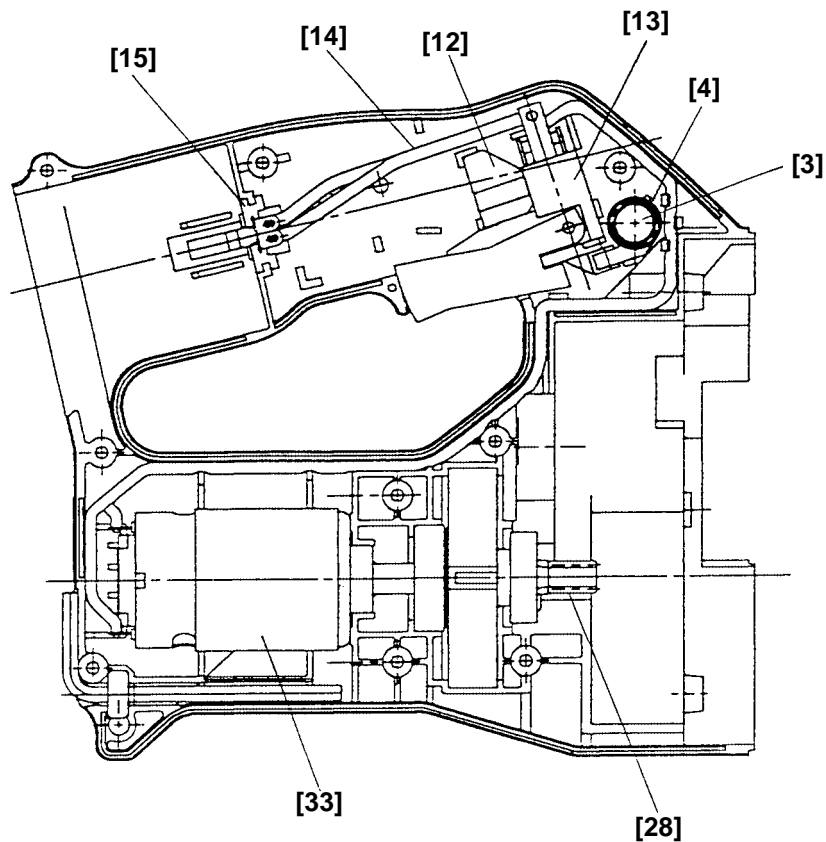

Fig. 28
(c) After removal of Housing (B) [2], the internal assemblies and parts can be removed (Fig. 28).